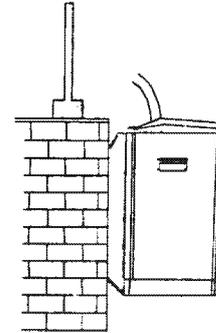

Fig. 1
1. Better install the outdoor unit in the outdoors to make an easy heat exchange. The ideal place: out of window, balcony, corridor and so on. To make the outdoor have an easy heat exchange, please leave the distance between the back of outdoor unit and the wall or other things no less than 5CM. (Fig.1)